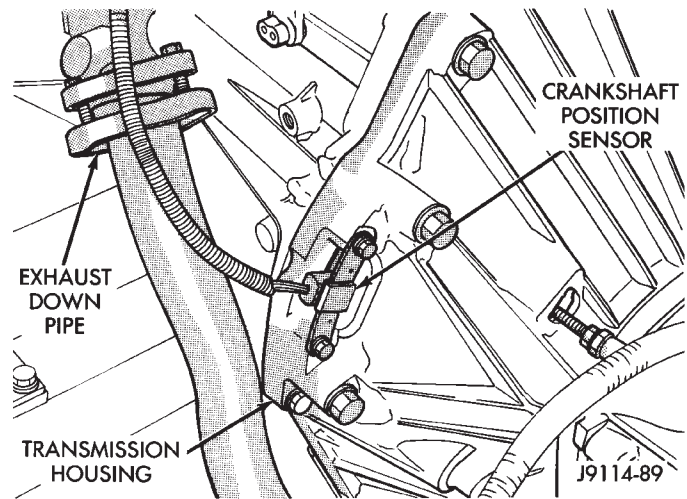

Fig. 1 Crankshaft Position Sensor (2.5L)
- (8) Disconnect propeller shafts at yokes. Secure shafts to frame rails with wire.
- (9) Disconnect exhaust pipes at exhaust manifolds, if necessary.
- (10) Drain transfer case lubricant, if transfer case will also be serviced.
- (11) Disconnect vehicle speed sensor wires.
- (12) Disconnect transfer case shift linkage.
- (13) Disconnect gearshift cable/linkage and throttle valve cable at transmission levers.
- (14) Disconnect transfer case vent hose. Then disconnect indicator switch wires on XJ, or vacuum switch harness on YJ.
- (15) Remove wire harness from clips on transfer case.
- (16) Remove transfer case attaching nuts and remove transfer case. Use transmission jack or helper to support and remove transfer case.
- (17) Disconnect park/neutral position switch wires.
- (18) Disconnect and remove crankshaft position sensor (Figs. 1 and 2). Retain sensor bolt (or bolts) for reinstallation.